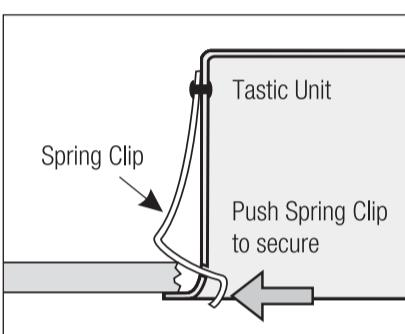

Fig. 9
- 3 To secure the unit in position, push lower ends of springs apart (Fig 9).